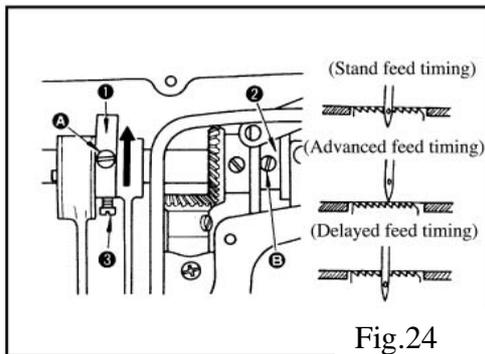

Fig.24
The thread release takes place simultaneously with the movement of the trimming solenoid. As seen in Fig.24, the amount of thread release is controlled by moving the fixed position of the thread release wire (2), which is connected with the clutch lever (1), left and right. Loosen the two fixing nuts (3) and pull the cable wire (2) to the left. Then fasten the nuts (3) to release the thread to a large extent. If the cable wire is pushed to the right and the nuts (3) tightened, the thread release happens on a lesser scale. After adjustment, tighten the nuts (3) once again and check whether the opening of the thread guide plate (4) of the thread adjuster is about 0.5-1 mm when the thread releaser is in operation. There should be no opening when the thread releaser is not in operation. The thread guide plates (4) should be touching back to back.